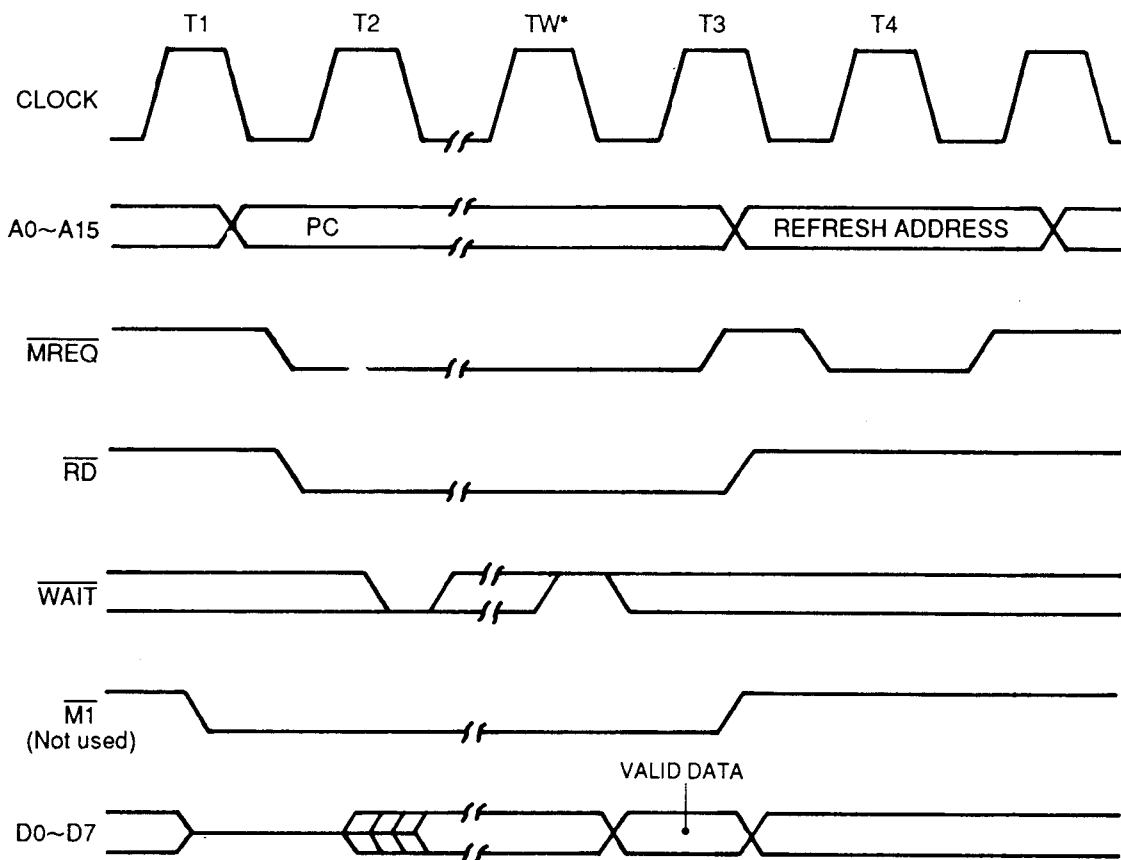

Figure 1. Instruction Opcode Fetch
Instruction Opcode Fetch The CPU places the contents of the Program Counter (PC) on the address bus at the start of the cycle (Figure 1). Approximately one-half clock cycle later, $\overline{\text{MREQ}}$ goes active. When active, $\overline{\text{RD}}$ indicates that the memory data can be enabled onto the CPU data bus.